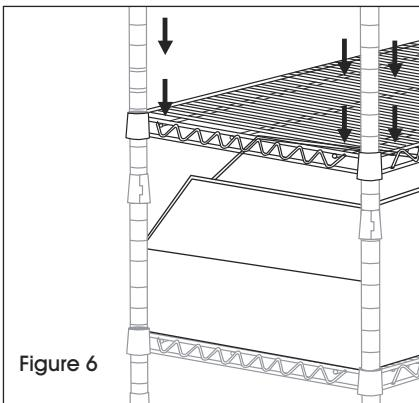

Figure 6
4. To determine the height of the next shelf, place a row of bins on the bottom shelf. Identify the groove that will allow the next shelf to fit right above the row of bins. Snap supports into this groove and then add and secure shelf. Repeat to add remaining shelves. (See Figure 6)